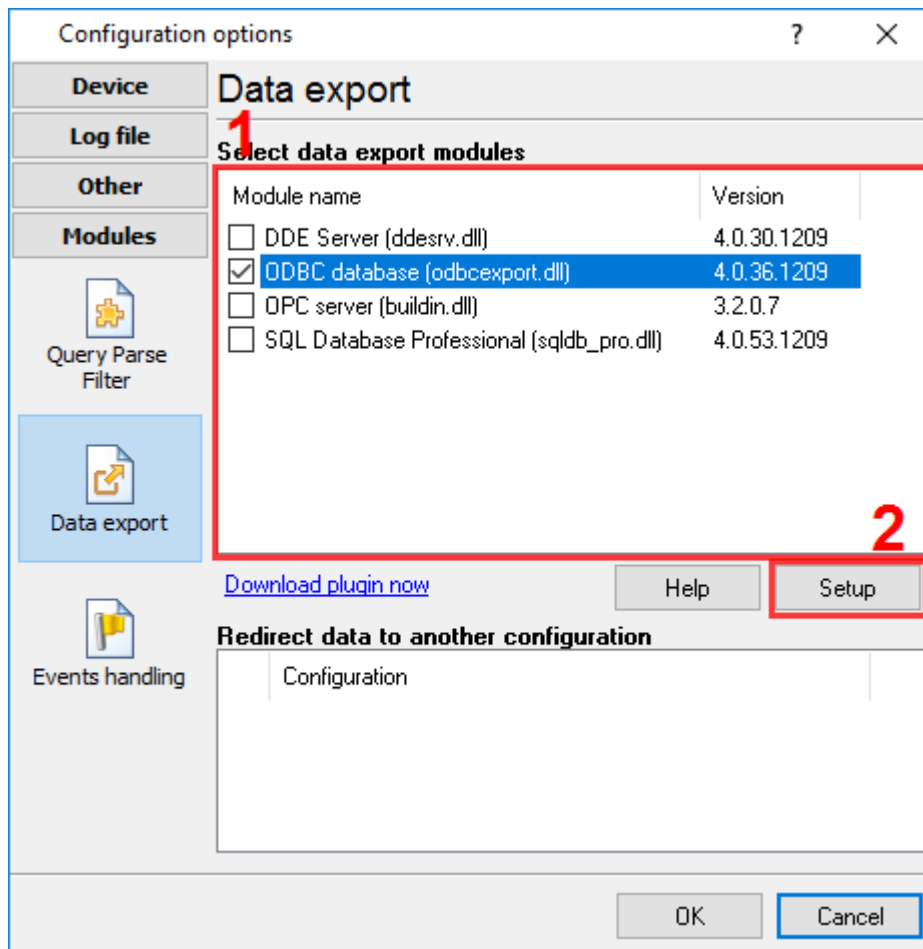

Figure 2. Selecting a data export module
4. Switch to the "Modules — Data export" tab and check the "ODBC database" checkbox (Figure 2).